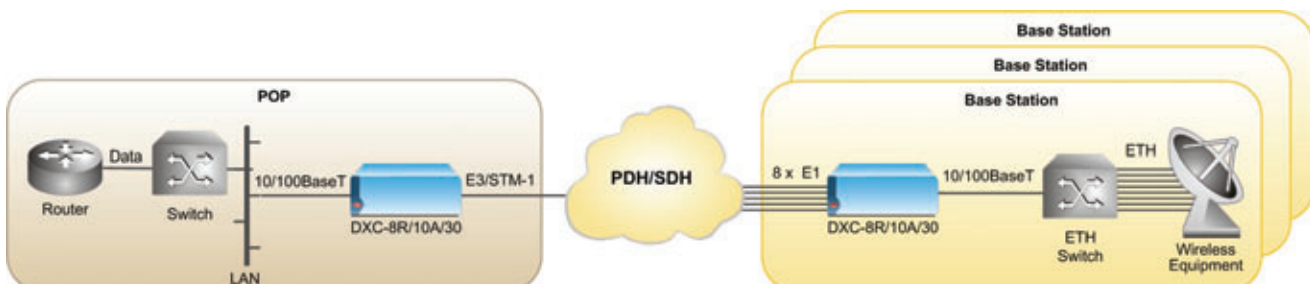

Figure 4. Inverse Multiplexing
- Inverse multiplexing a single higher-rate logical channel over as many as 8 E1/T1 links (see *Figure 4*).